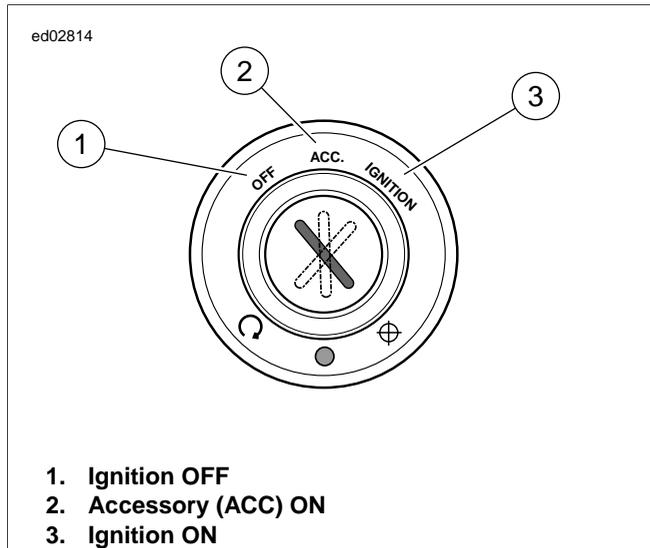

Figure E-7. Ignition Switch
- See Figure E-7. "Key ON" means that the Ignition Switch is turned to IGNITION (3) and the Engine Stop Switch is set to RUN (although the engine is not running).